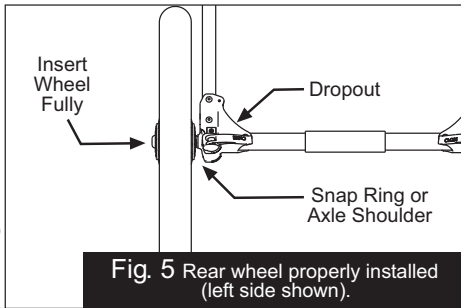

**Fig. 3** Handlebar in the fully open position.
**3. HANDLE:** Rotate the stroller handle up to the fully open position. Slider Latches will lock into place (Fig. 3).